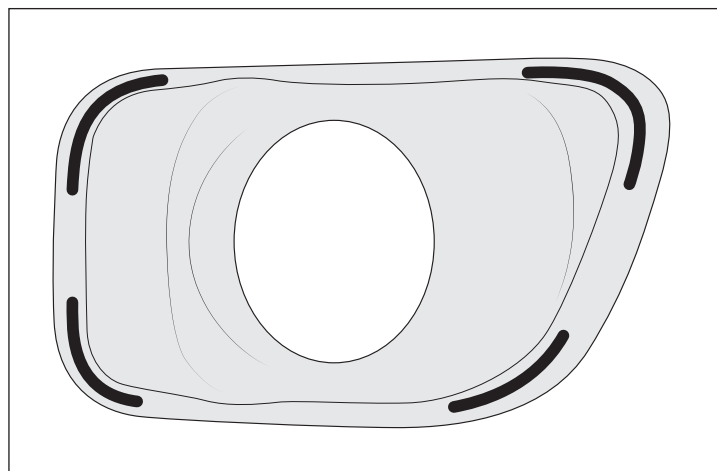

Figure 42
1. Clean the backside of the Lamp Bezels with alcohol. Apply approximately 3" long beads of black RTV at all four corners of the bezels (fig. 42).